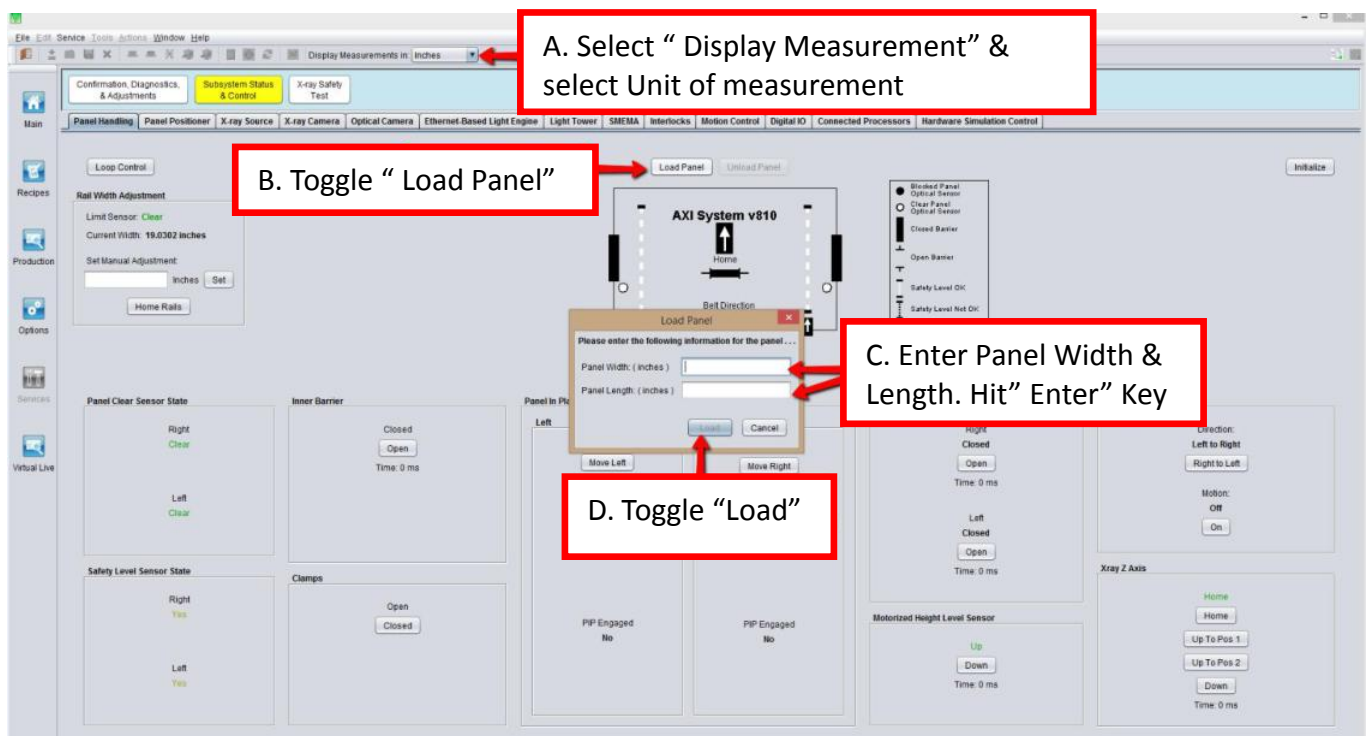

Figure 18 Panel Handling
12. Set the parameters as shown in the Figure 18 and click Load Panel.